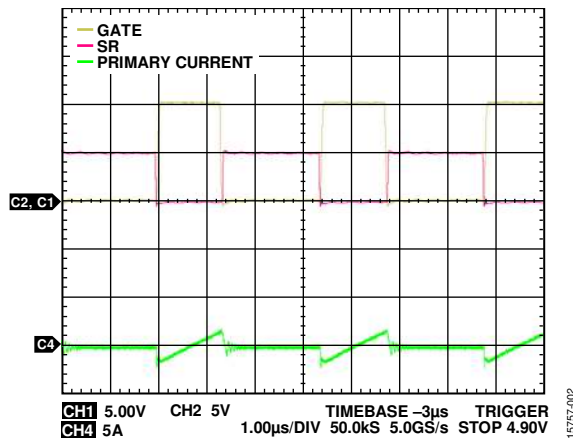

Figure 2. GATE and SR Example at 48 Vdc Input and No Load
The gate signals, GATE and SR, are generated by isolated gate drivers within ADP1071-2. There is only one logic low level which is zero. The maximum voltage on GATE is the VREG1 pin voltage and the maximum voltage of the SR pin is the VREG2 pin voltage. An example of GATE and SR waveforms is shown in Figure 2. All the signals shown represent the signals at the output pins of the integrated circuit (IC).